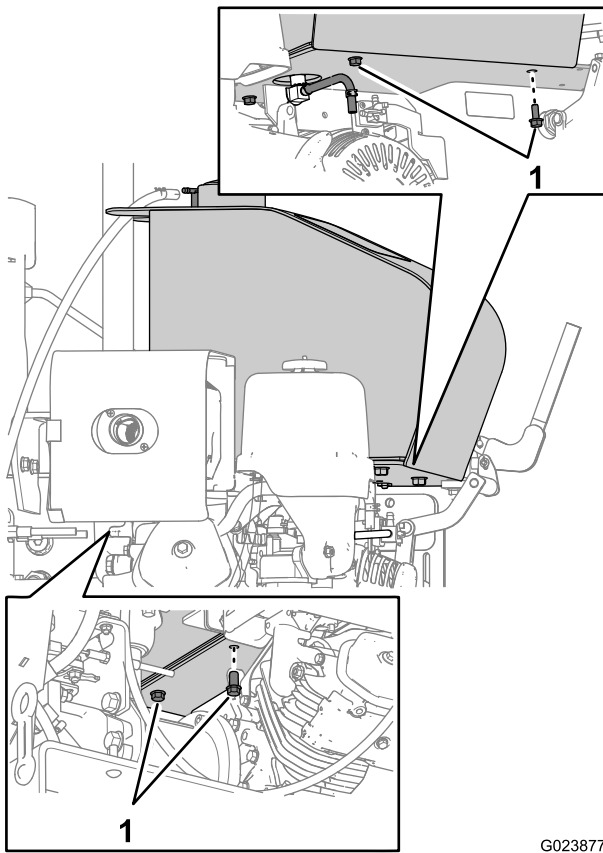

**Figure 6**
- Remove the hose clamp that secures the fuel hose to the barbed fitting in the fuel filter, and remove the hose (Figure 6).